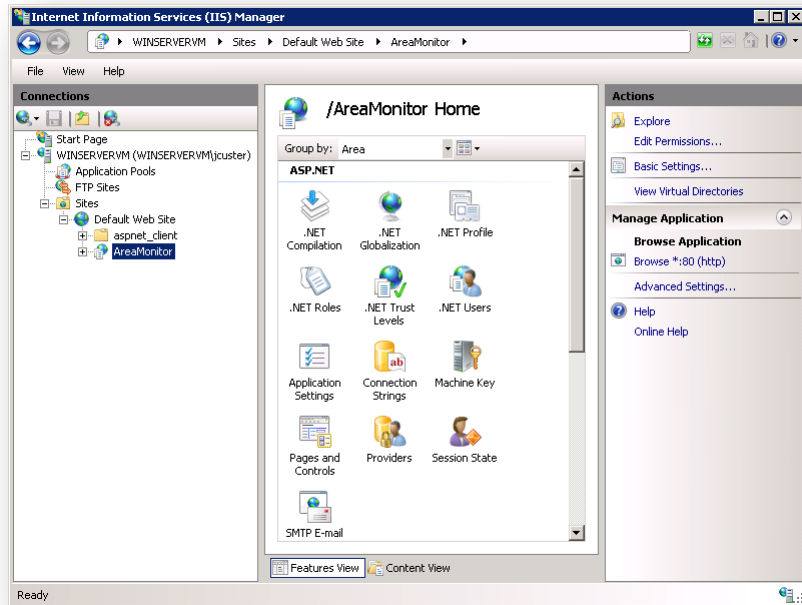

Figure 88 – Internet Information Services (IIS) Manager showing AreaMonitor application
10. Click “OK”. See Figure 88.